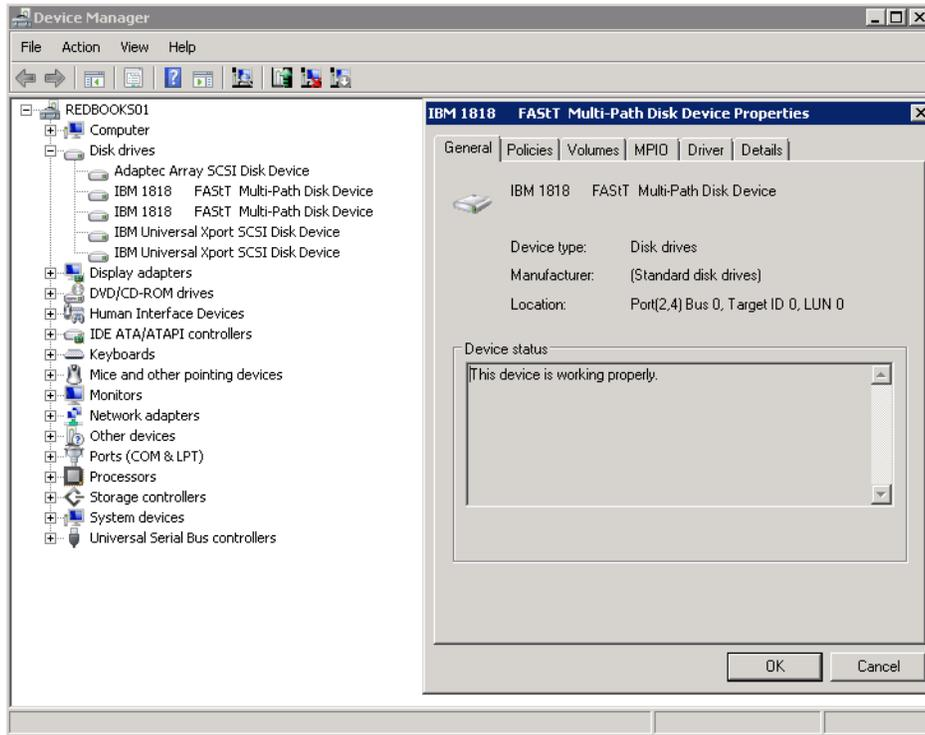
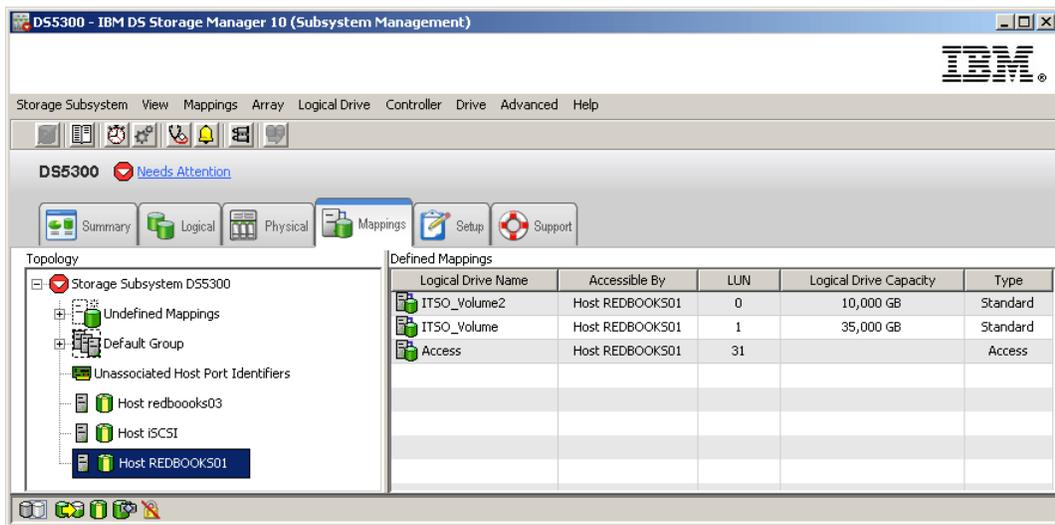
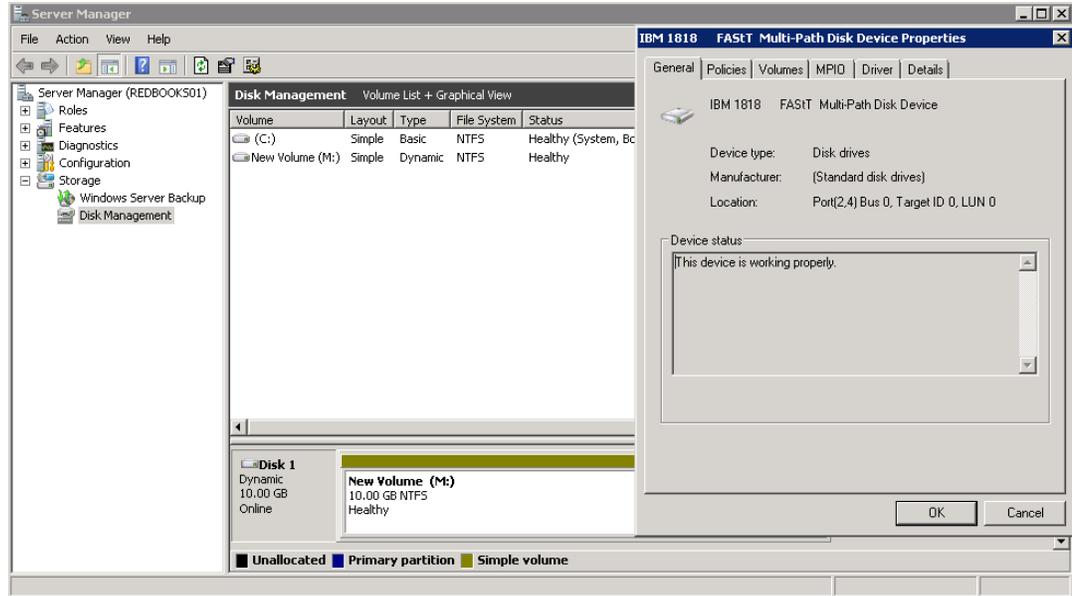

Figure 4-23 Matching LUNs between Windows host and SM
Figure 4-24 Matching LUNs on DS Storage Manager
Figure 4-25 Matching LUNs on Windows Disk Management
- Use the LUN number to isolate each logical drive as shown in Figure 4-23, comparing it against the Storage Subsystem Mapping tab in Figure 4-24.
4. Finally, use the Windows Disk Management panel to start using your newly mapped DS disks. Before making any changes to your disk structure, make sure to identify your disks correctly. You can get the same information presented previously in Figure 4-23 on page 174, by right-clicking each of the drives and selecting **Properties**, as shown in Figure 4-25.